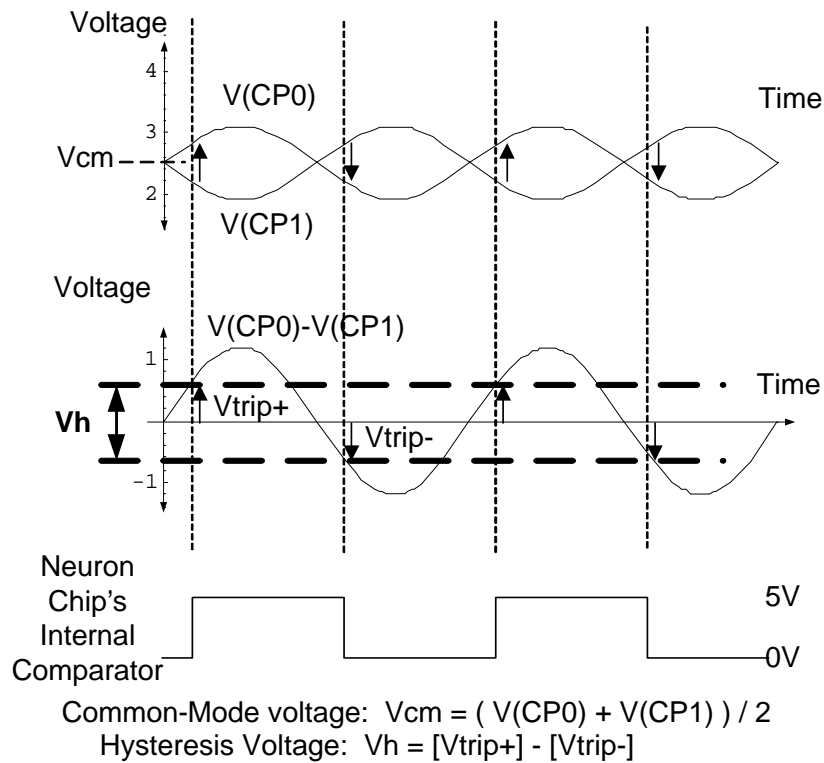

Figure 8. Differential Receiver Input Hysteresis Voltage Measurement Waveforms for 5V Operation
- CP0 and CP1 inputs each 0.60 Vp-p, 1.25 MHz sine wave 180° out of phase with each other as shown in Figure 8. $V_{DD} = 5.00 V \pm 5\%$ ($V_{DD} = 3.30 V \pm 5\%$).